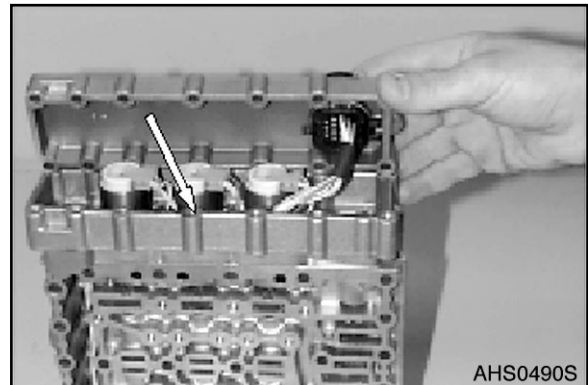

Figure 66
- K. Mount flat gasket (Figure 66).